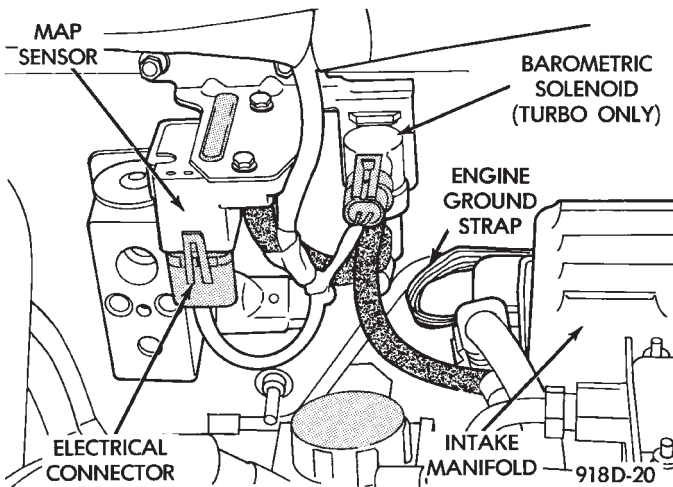

Fig. 4 MAP and Barometric Solenoid Connections
(5) Verify the electrical connector is attached to the MAP sensor (Fig. 4).